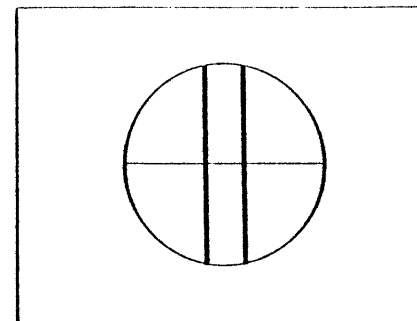

FIGURE 2-3. TARGET LINES PERFECTLY ALIGNED
6. While continuing to look through the master camera eyepiece, rotate the focus wheel of the Sonar camera until the target lines are perfectly aligned (Figure 2-3).